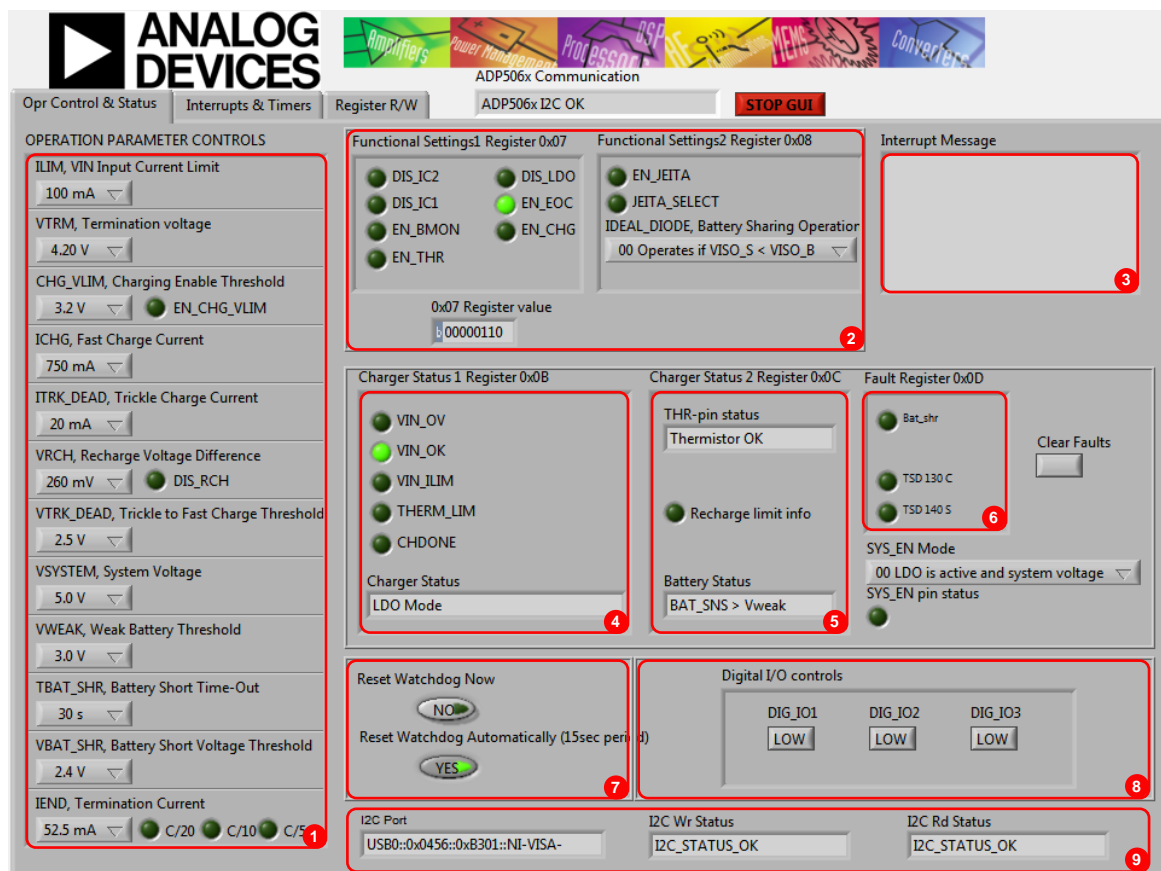
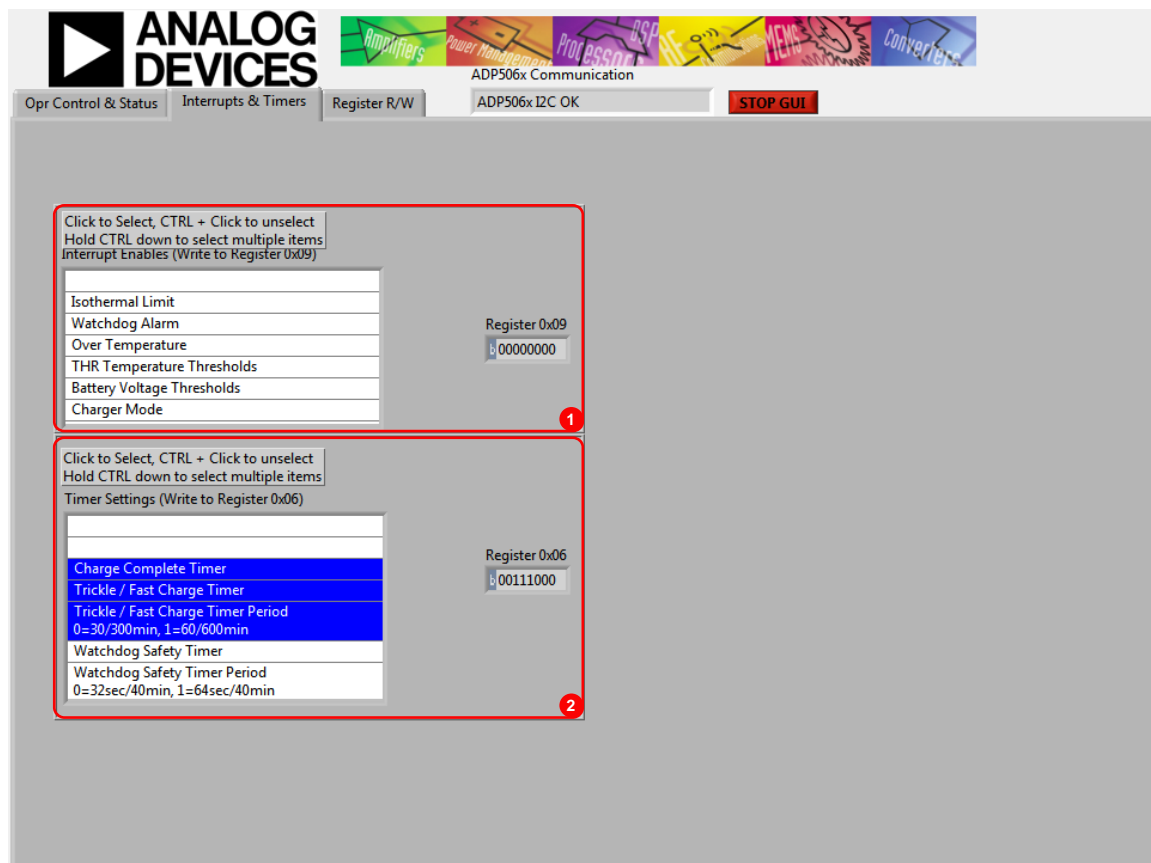

Figure 2. ADP5061 GUI Operation Control and Status Tab
Figure 3. ADP5061 Evaluation Software GUI, **Interrupts & Timers** Tab
The following are the GUI operation controls and status tools (see Figure 2):
VIN must be above 2.5 V in order for the I2C communication of the ADP5061 to start working. The VIN voltage level is monitored, and the indicators are shown in the charger status indicators (see Number 4 in Figure 2). The GUI automatically reads the content of the registers after every 0.3 seconds from the last action and updates the status of the registers on screen.
If there is a problem in the I2C communication, the status indicators show an error message (see Number 9 in Figure 2). When I2C communication is operational, status indicators show I2C\_STATUS\_OK (see Figure 2).
The **Interrupts & Timers** tab (see Figure 3) in the GUI controls the register settings. Register 0x0A is automatically read after every 0.3 second timeout from the last user action involving the GUI. When a certain interrupt is enabled, and there is a status change in the corresponding function during charging, an interrupt message is shown in the **Opr Control & Status** tab (see Number 3 in Figure 2).
The default settings of the timers are shown in Figure 3. Changing the timer settings can be done by clicking items in the **Timer Settings (Write to Register 0x06)** box.
- The **Battery Status** indicator on the GUI must show **BAT\_SNS > Vweak** (see Figure 2).
4. Disable charge complete timer register, Register 0x06, using the GUI (see Figure 3).